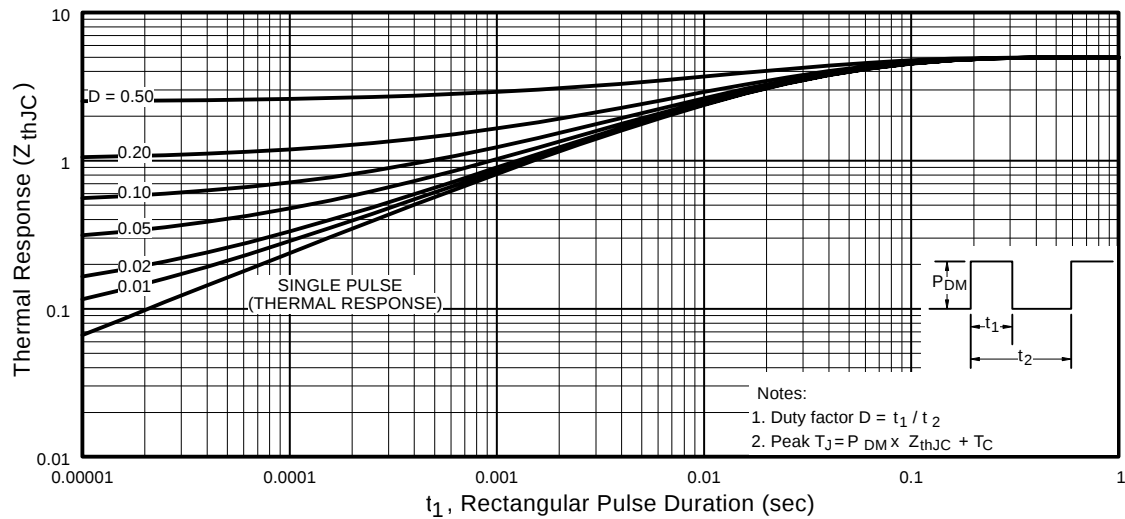

Fig 11. Maximum Effective Transient Thermal Impedance, Junction-to-Case
- ① Repetitive rating; pulse width limited by max. junction temperature. (See fig. 11)
② Starting $T_J = 25^\circ\text{C}$, $L = 4.7\text{mH}$